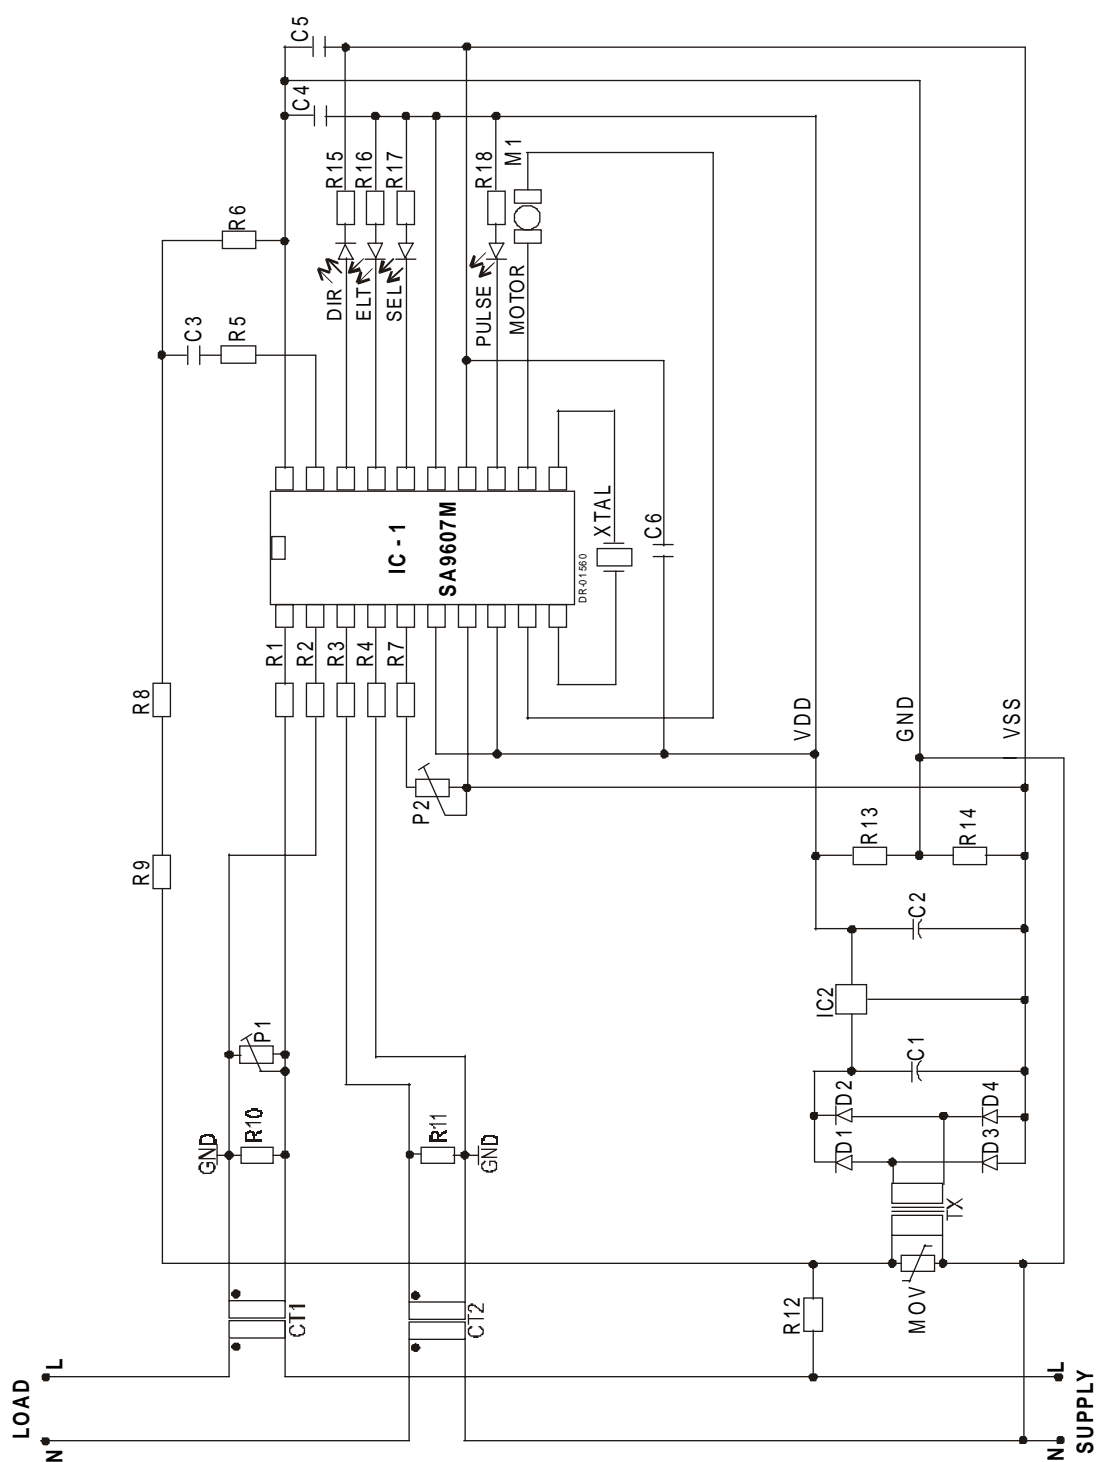

Figure 7: Application Circuit
In the Application Circuit (Figure 7), the voltage drop across the shunt will be between 0 and $16mV_{RMS}$ (0 to 80A through a shunt resistor of $200\mu\Omega$). The voltage across the current transformers terminating resistor will also be between 0 and $16mV_{RMS}$. These voltages are converted to currents of between 0 and $16\mu A_{RMS}$ for each current sense inputs by means of resistors R_1 and R_2 (channel 1) as well as R_3 and R_4 (channel 2).
**SA9607M****sames****Parts List for Application Circuit: Figure 7**